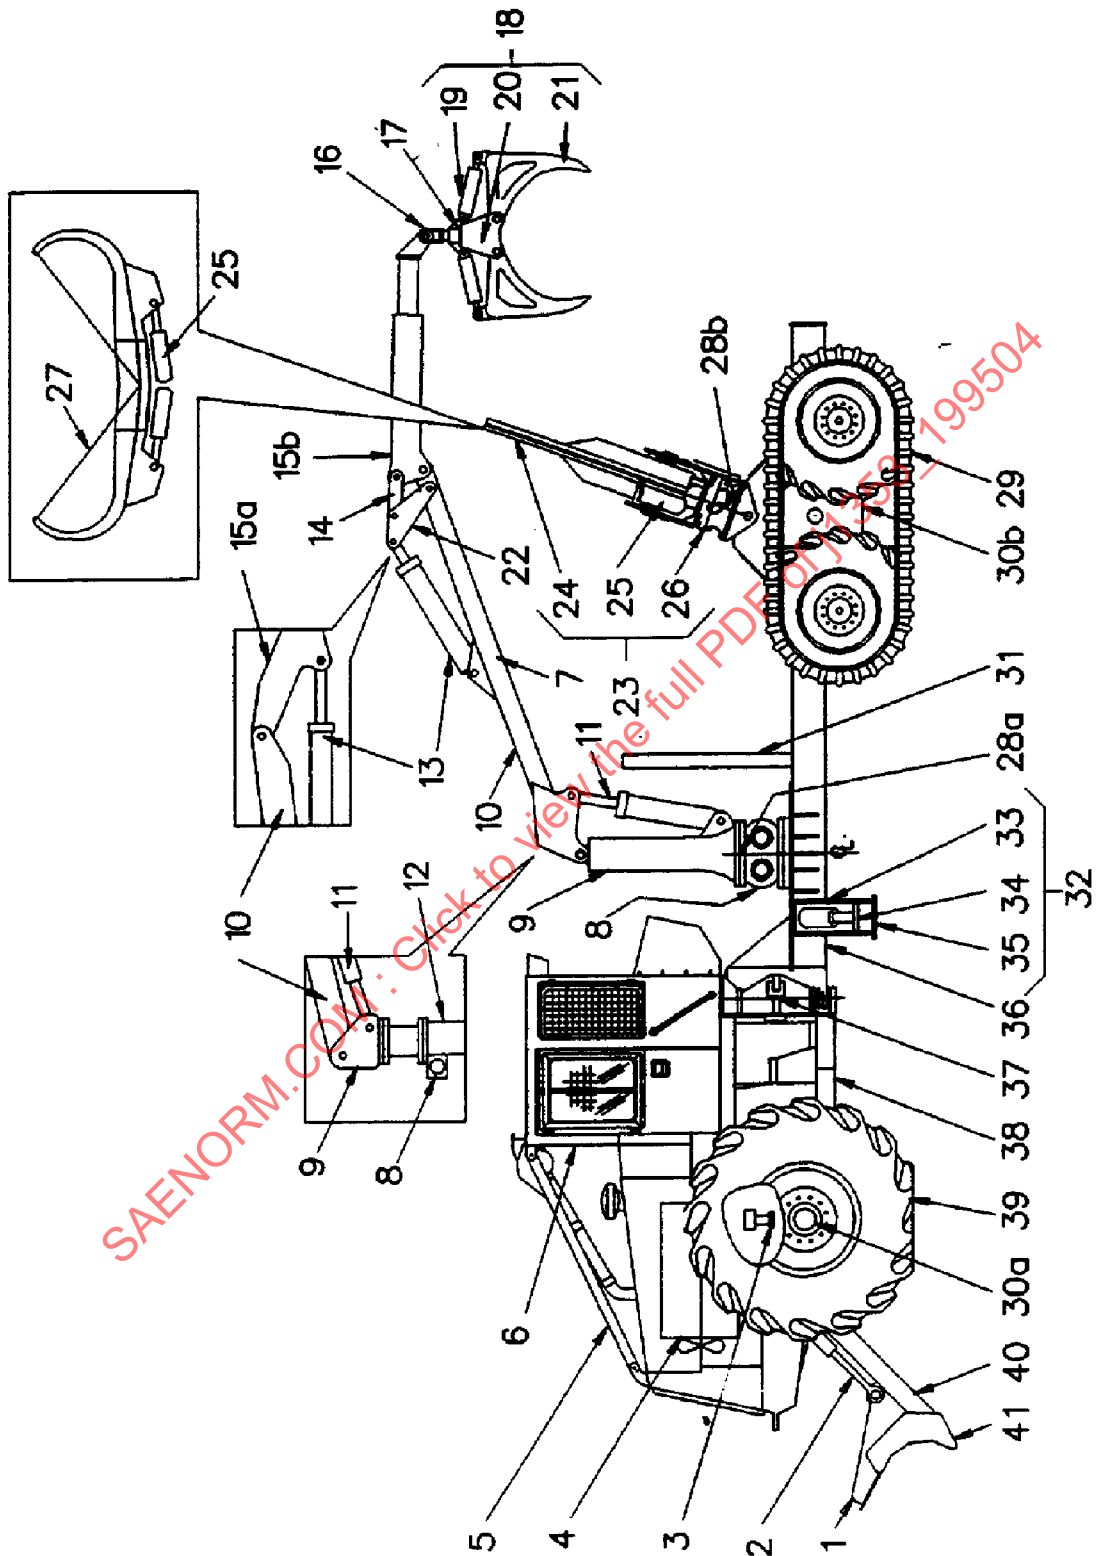

FIGURE 1—CLAM BUNK SKIDDER
3.1 **Clam Bunk Skidder (Figures 1 and 2)**—A self-propelled machine designed to transport trees or parts of trees by trailing or dragging by using an integrally mounted grapple loader to assemble the load and clam or top-opening jaw to hold the load.